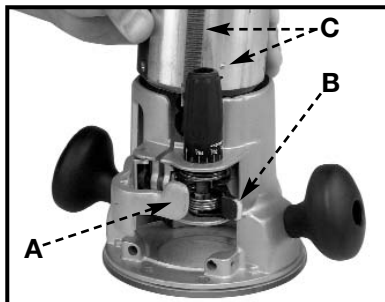
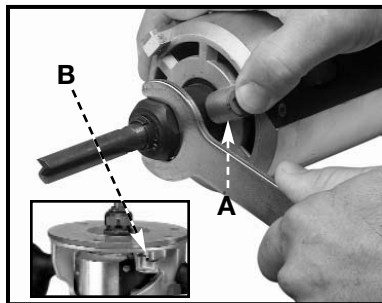
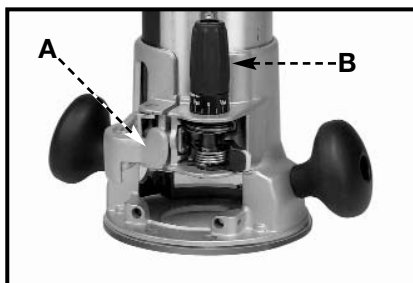

Fig. 1
Fig. 2
Fig. 3
- Open the clamp (A) Fig. 1.
- While holding base, pull lever (B).
- Press the spindle lock button (A) Fig. 2.
NOTE: You can change the bit with the motor in the base by lifting and turning the spindle lock actuator (B) inset, Fig. 2. **NOTE:** the spindle lock will not work when the tool is "ON".
1. Open the clamp (A) Fig. 1 and set the power unit in the base unit.
2. Align the rack and pin (C) Fig. 1 of the power unit with the grooves in the base, pull the lever (B) Fig. 1, and lower the motor into the base.
3. Close the clamp (A).
1. Open the clamp (A) Fig. 3.
3. Pull the lever (B) Fig. 1 and rotate the knob (B) (Fig. 3) until the bit touches the work.
4. Close the clamp (A) Fig. 3.